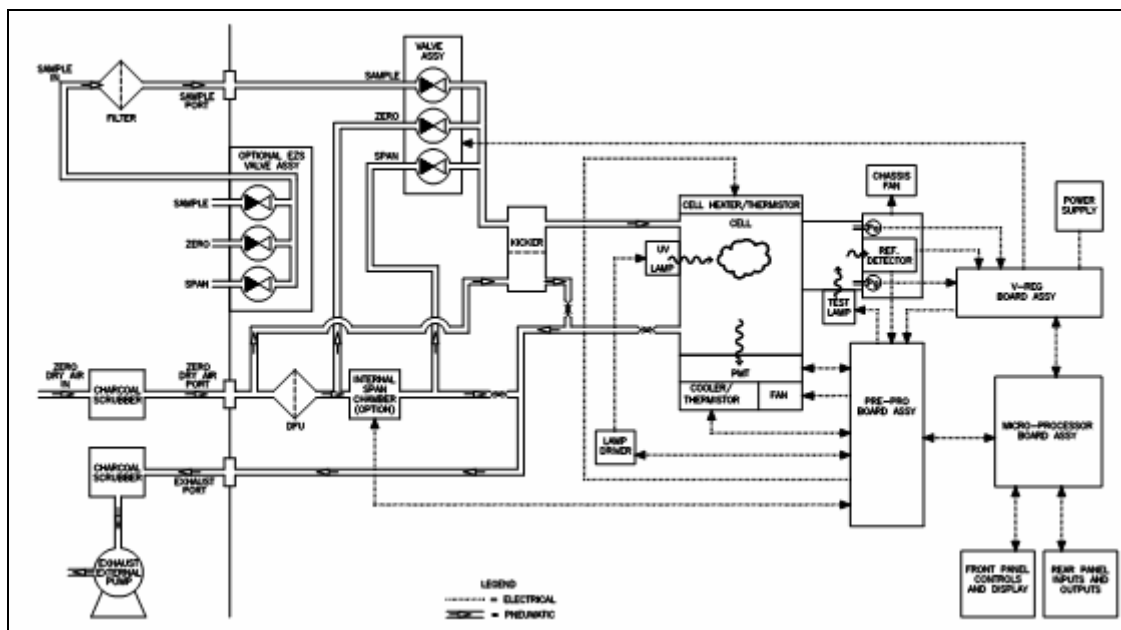
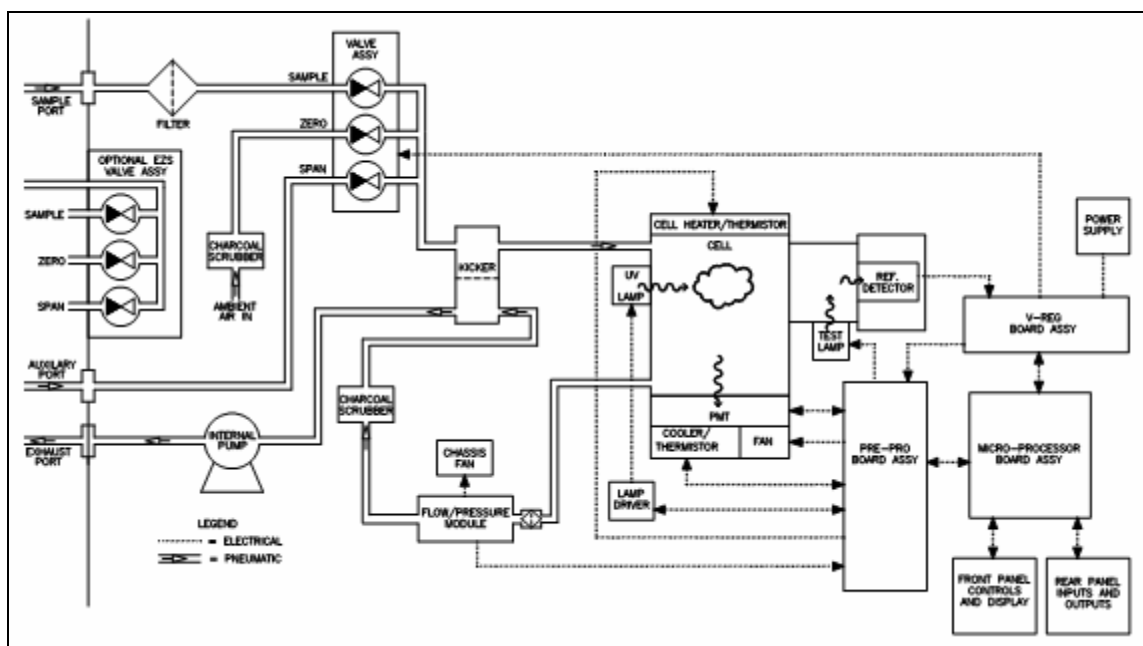
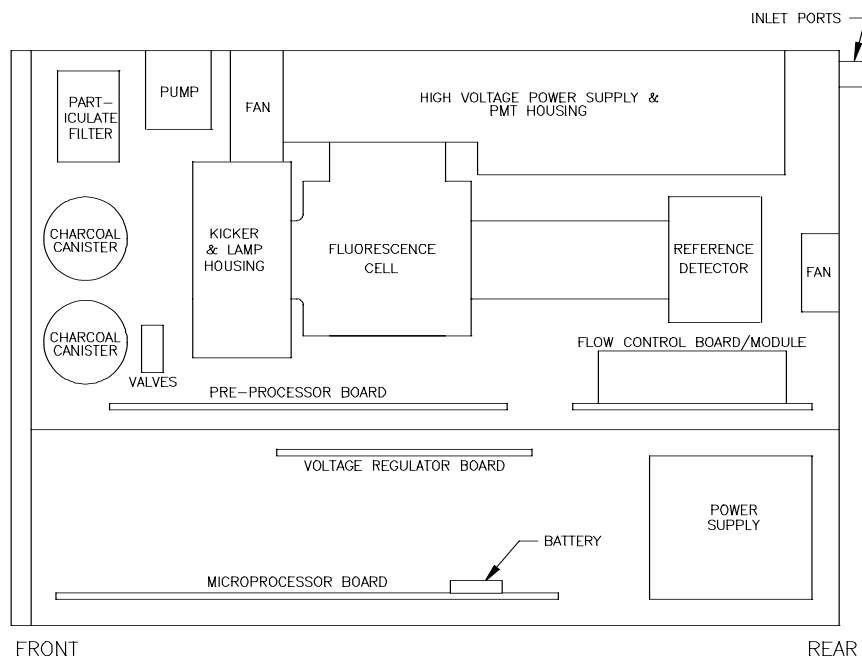
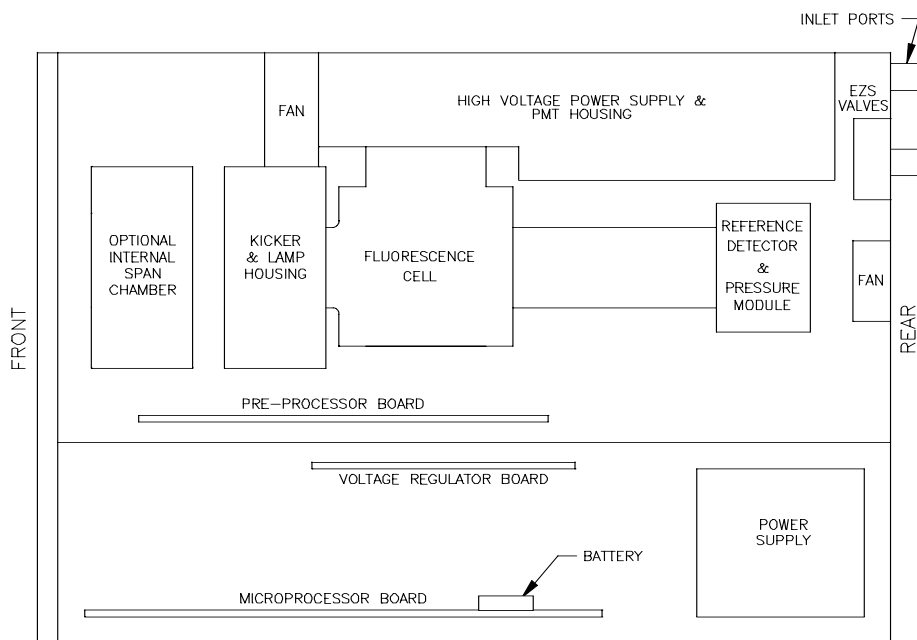

Figure 4. System Block Diagram (A Series)
Figure 5. System Block Diagram (B Series)
Figure 6. Major Components (A Series)
Figure 7. Major Components (B Series)
The instrument consists of a power/microprocessor module and a sensor module. The power/microprocessor module contains the power supply, voltage regulators, and the system microprocessor. The sensor module contains all components necessary to measure the pollutant gas. The slight variations between the A and B series analyzers are illustrated using system block diagrams (Figure 4 & Figure 5) and major component layout diagrams (Figure 6 & Figure 7).
- *Reference Detector Preamplifier.* This circuit board is housed within the box labeled Reference Detector in Figure 6. The circuit board's function is to convert the current signal from the reference detector to a voltage signal and provide amplification. (A series only).
- *Preamp/Pressure PCA.* This assembly is located at the end of the fluorescence cell as noted in Figure 7. The reference preamplifier (detector) portion of the board converts the current from the UV detector to voltage and amplifies it to a waveform proportional to the reference signal. The pressure/flow portion of the board contains an absolute and a gauge pressure transducer to measure cell pressure and detect sample flow. This board also powers the chassis fan. (B series only).